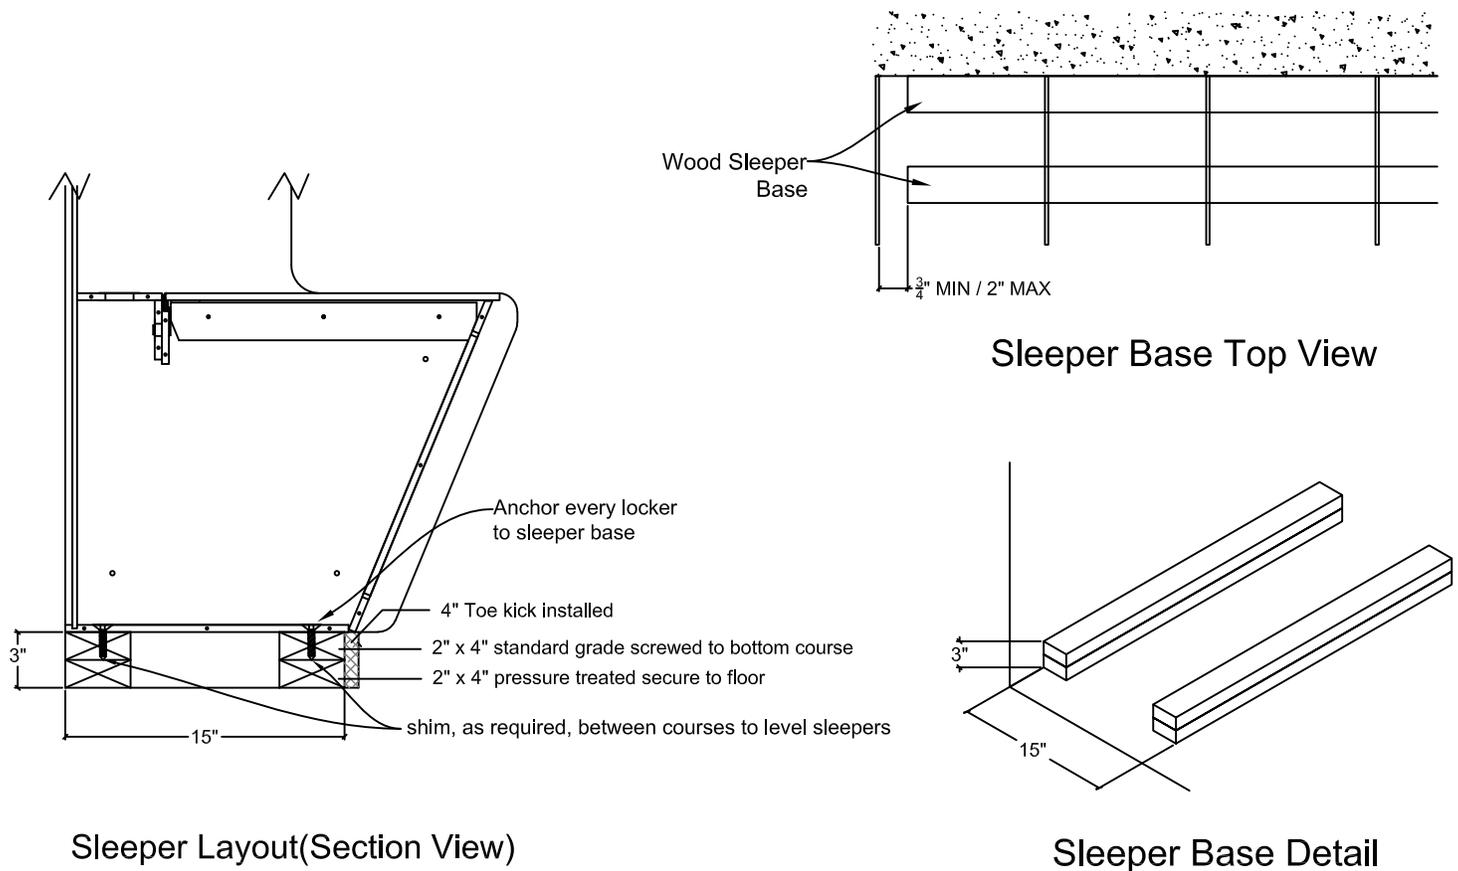

Figure 1.2: Sleeper Base details
- 3.2 Establish and mark the highest point of the floor, concrete curb, or sleeper base in the room where the lockers will be installed. Use your level and tape measure to determine this. Note, if installed on wood sleeper bases (by others), you should also mark this from the bases highest point. See figure 1.2.
- 4.2 For lockers that are to be installed along and in between two walls, the wood sleeper base run should be $\frac{3}{4}$ " from the wall. For lockers not installed against the wall, sleeper bases should stop at the last locker in the run. See figure 1.2.